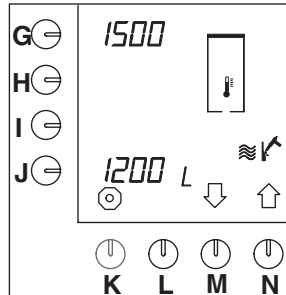

Fig. 27 Descaling counter hot water system
- The descaling counter appears on the display (fig.27).